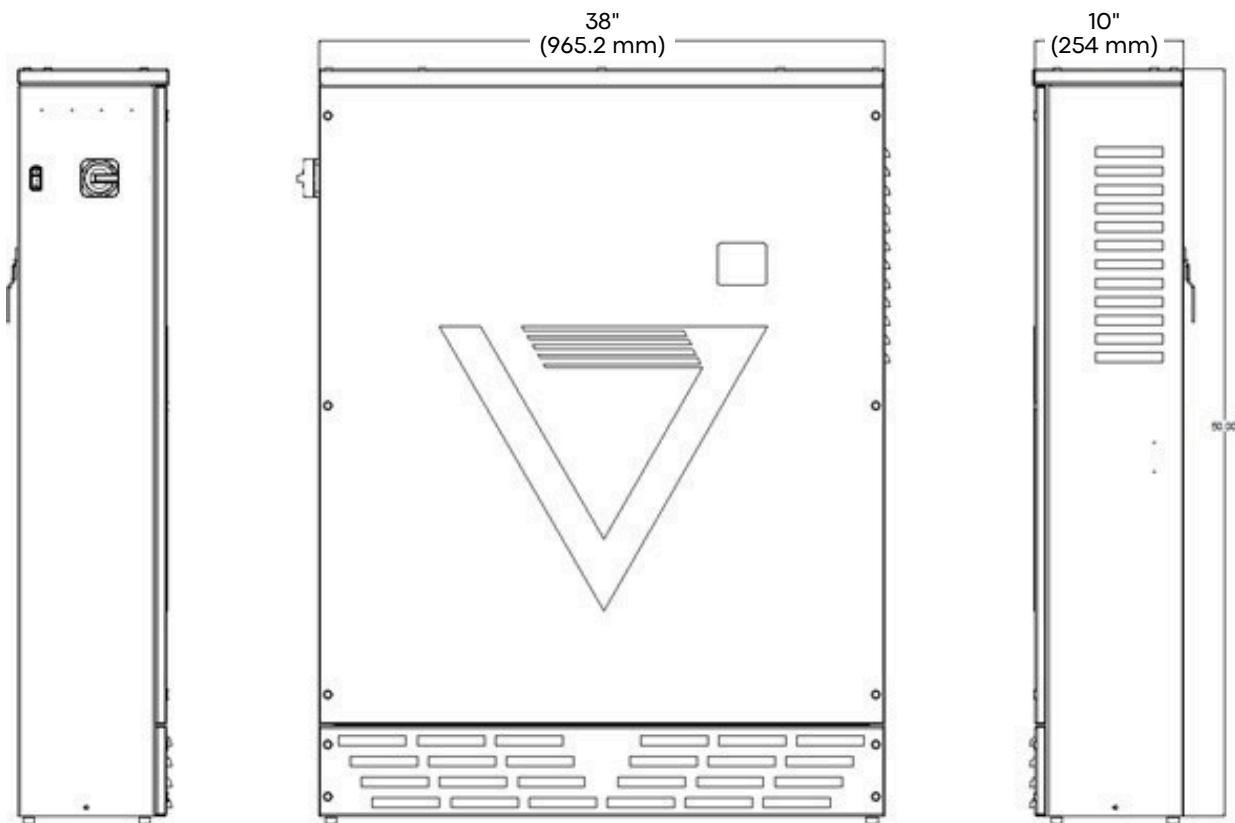

Figure 4
The NV14 Energy Storage System cabinet has four (4) conduit landing locations identified by ¼" (6.35mm) diameter indentations in the upper left side and (2) on the middle right side of the enclosure (refer to Figure 4). It is the responsibility of the installer to determine the best location to punch for conduit knockouts.